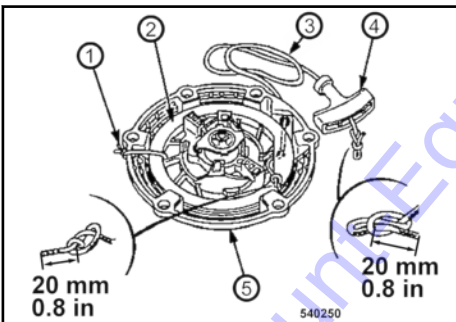

Fig. 75
Secure the coil (2) ↳ Fig. 75 against winding up. For this purpose tie the coil to the housing (5) with a cable strap (1).